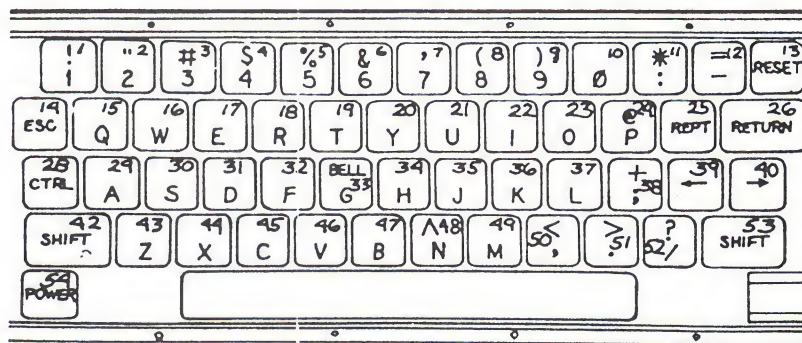

FIGURE 3
1. Locate the desired key. (See Figure 3.)